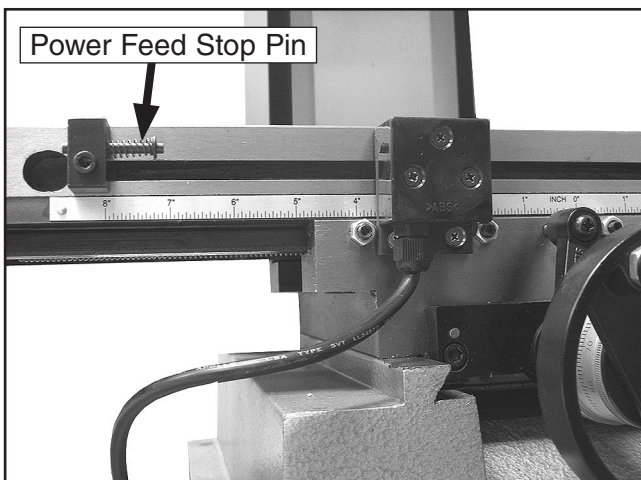

Figure 24. Power feed stop pin lubrication.
- Oil power feed stop pins (**Figure 24**).